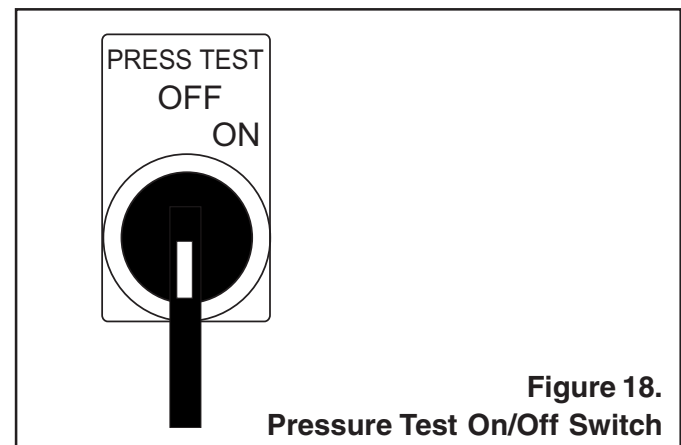

Figure 18.
12. The Pressure Test switch (Figure 18) is a self-diagnostic test switch, that when activated will test the pressure of the system. This switch will be discussed in the maintenance and troubleshooting section of this manual.
- D. Push the Hopper Remixer Control lever **upward** (Figure 18) and observe that the blades (Figure 20) inside the hopper are turning in a counter-clockwise direction (reverse).